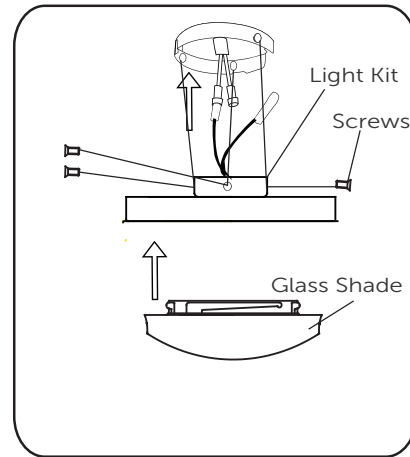

Fig.9
9. Connect the wire inside the switch housing cap by snapping the male and female connectors together; match white wires together and blue wire to black wire together. Screw on light kit assembly and switch housing with 3 screws previously removed (Fig. 9).
- Attach the glass shade to the light kit and turn clockwise until tight (Fig. 9).